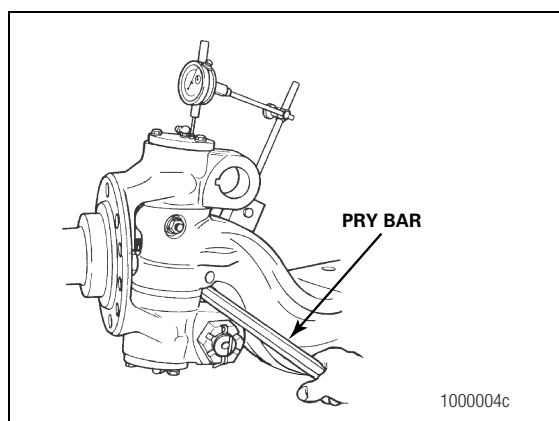

Figure 5
8. Measure the vertical end play. Add or remove shims until the end play is within specification for your application. Refer to Maintenance Manual 2 for complete end play check procedures and specifications. Figure 5.